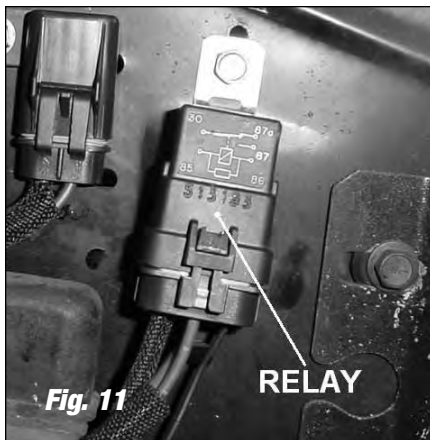

Fig. 11
20. Mount Edelbrock fuel pump relay at suitable location under hood (e.g. radiator support, inner fender, firewall) away from extreme heat (**See Fig. 11**).